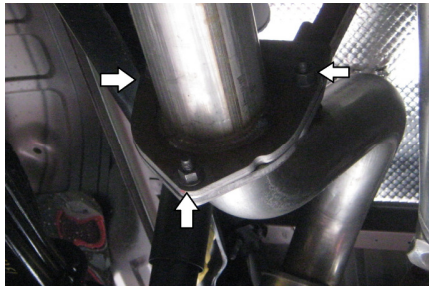

Figure 1
2. Loosen the three nuts securing the extension pipe flange to the over-axle pipe. **Refer to Figure 1.**